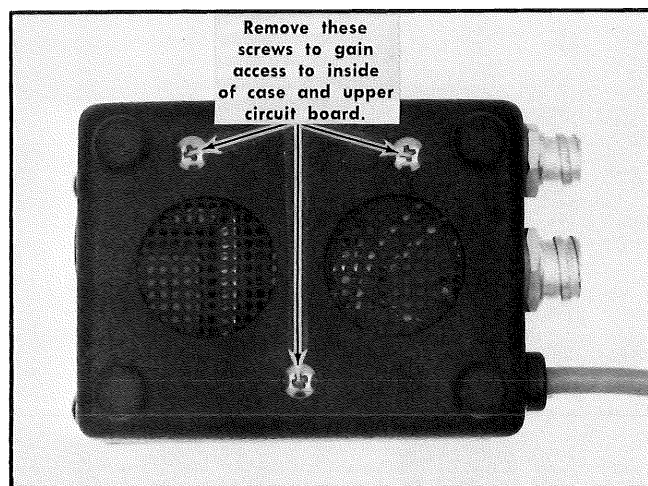

Fig. 6-1. Screw removal for Speedcomputer.
- Remove the three screws indicated in Fig. 6-1 from the rear of the Speedcomputer case.